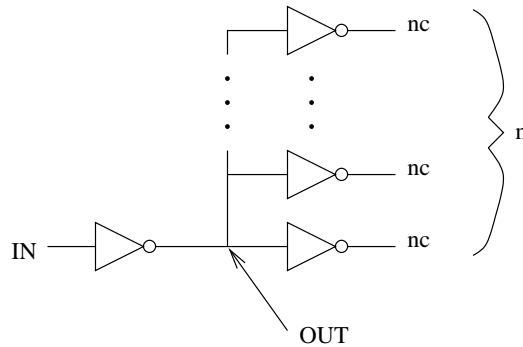
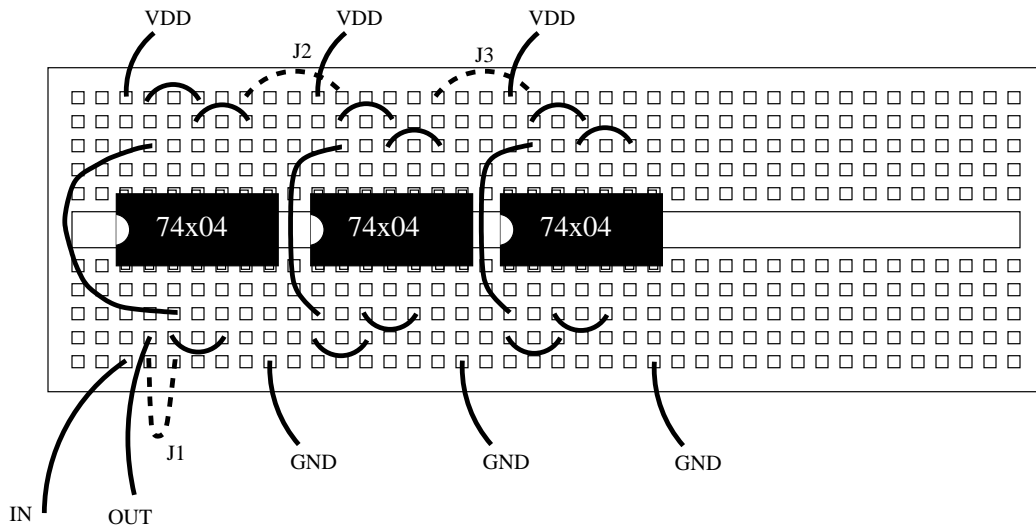

Figure 15: Schematic of Fanout Circuit
Figure 16: Fanout Experiment Setup
4. Wire up the circuit in Figure 15 as shown in Figure 16 where n is the number of inverter inputs connected to the output of a single inverter. The dashed lines represent jumper wires which can be connected or disconnected to vary n . Start with none of the dashed wires connected. Connect one